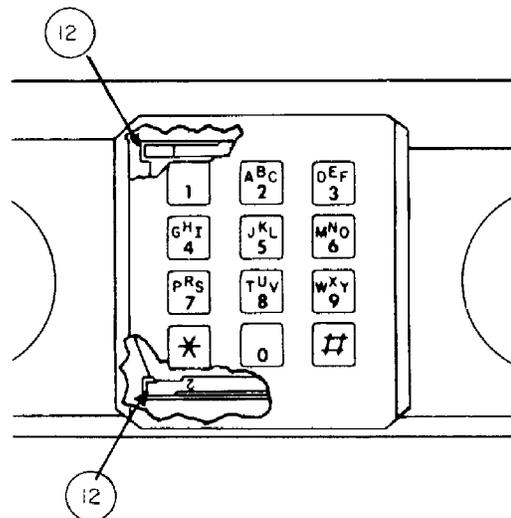
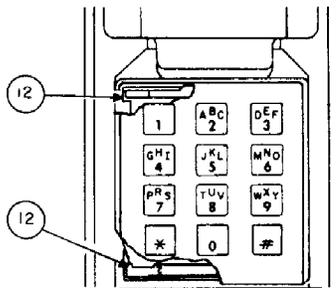

Figure 10. Type 182A Telephone Installation of the Old-Style TCU.
Figure 11. Type 192A Telephone Installation of the Old-Style TCU.
- 4.09 To install the old-style TCU (item 9), proceed as follows:
- (b) Install the two mounting bars (item 12) as shown in Figure 10 (for the Type 182A telephone) or Figure 11 (for the Type 192A telephone). Note that the mounting bars have raised numbers on them. These bars are to be inserted so that the "1" indicating the top side of the bar is positioned at the top of the TCU, and that the "2" indicating the bottom side of the bar is positioned at the bottom of the TCU. The numbers should be visible when the adapter plate (item 11 of Figure 4) is removed.